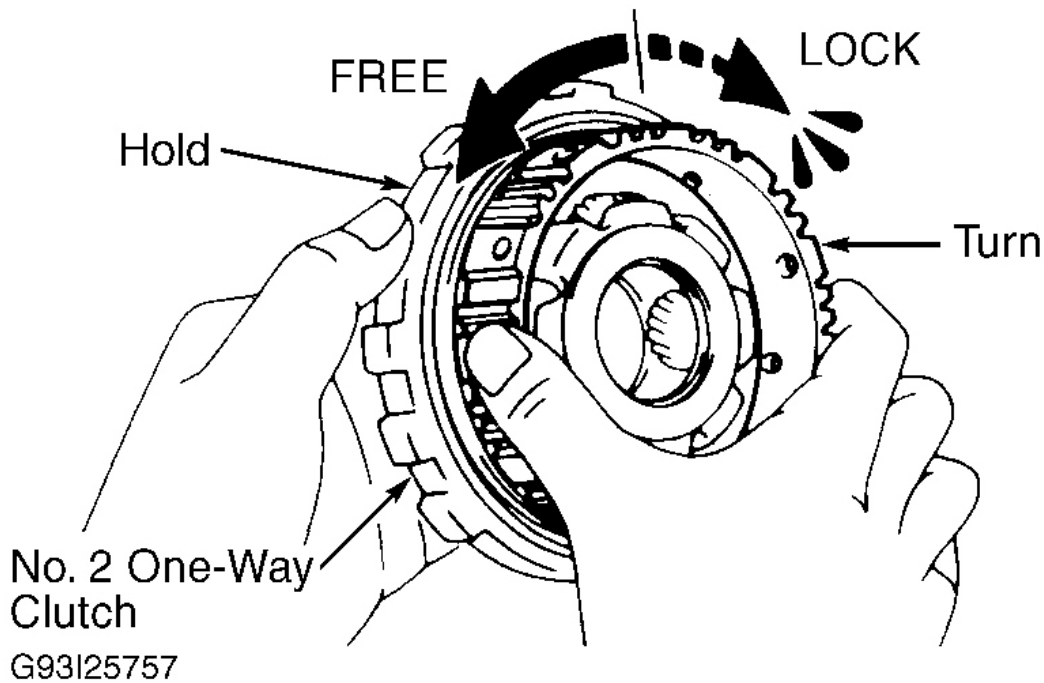

Fig. 26: Checking No. 2 One-Way Clutch Operation
1. Check operation of No. 2 one-way clutch. Hold outer race and turn hub. Hub should turn freely counterclockwise and should lock when turned clockwise. See **Fig. 26**. Separate No. 2 one-way clutch and rear planetary gear.